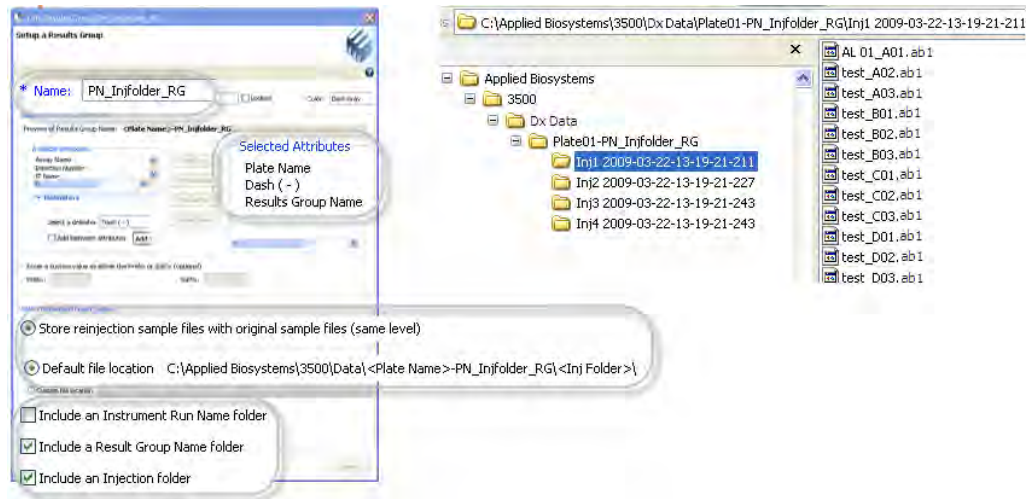

Figure 12 PN_Injfolder_RG results group
- Figure 12 shows the factory-provided PN_Injfolder_RG results group and the folders created when it is used. This results group creates a folder for each injection.